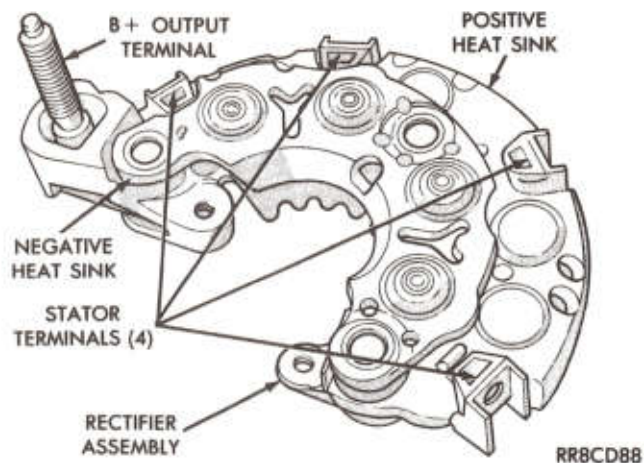

Fig. 7—Inspect Rectifier for Damage
(1) Inspect the rectifier assembly for poor solder joints, cracks, loose terminals, or signs of overheating (Fig. 7).